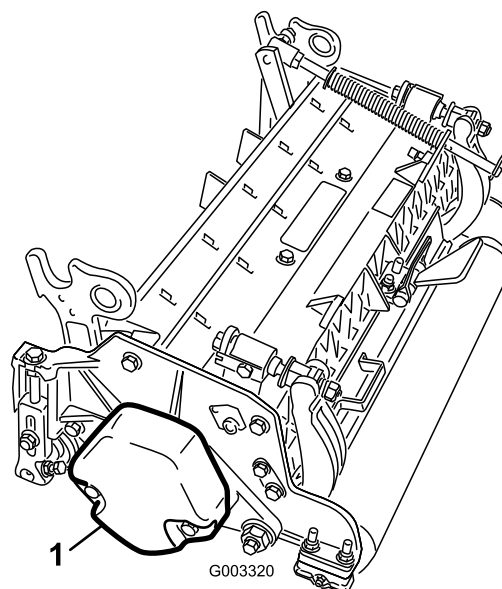

Figure 15
1. On the #2, #4 and #6 cutting units, remove the 2 cap screws securing the counter weight to the left end of the cutting unit. Remove the counter weight (Figure 15).